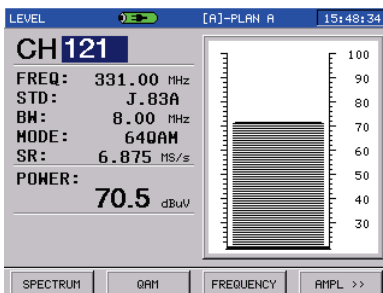

Figure3-2-6
**LEVEL(F2):** Press LEVEL soft key to power measurement function of this channel as Figure3-2-6.